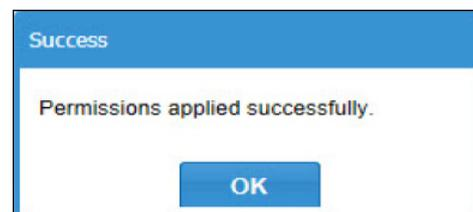

Figure 53 Success message
- If you click **OK**, then the Success message displays, as shown in Figure 53. Clicking **OK** again will close the Success message box.